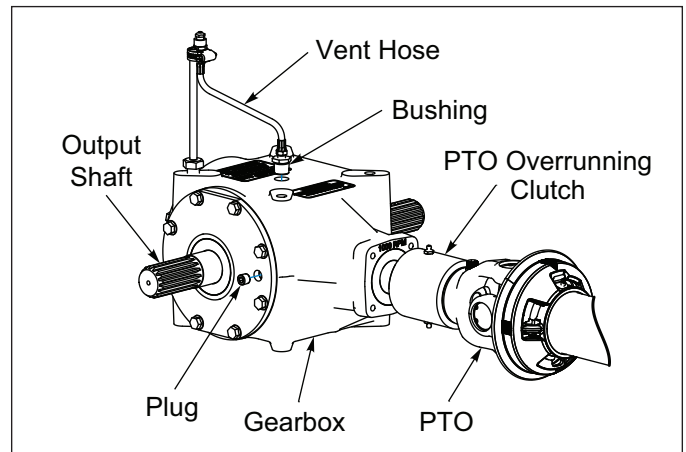

Figure 2-6: Gearbox
6. The Gearbox is shipped without Gear Oil. On the side of the Gearbox you will find a Plug located in the front of the Gearbox Output Shaft. Remove the Plug. Remove Vent Hose Bushing at the top of the Gearbox and fill the Gearbox with proper Gear Oil to the bottom of the Gearbox Plug Hole by the Output Shaft. Do Not overfill with Gear Oil. Install removed side Plug and Top Vent Hose Bushing. **See Figure 2-6.**